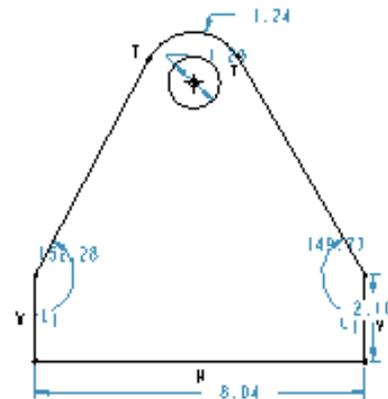

Figure 1-23 Sketch with all entities, weak dimensions, and weak constraints
4. Press the middle mouse button to end circle creation. The sketch is complete and appears similar to that shown in Figure 1-23.